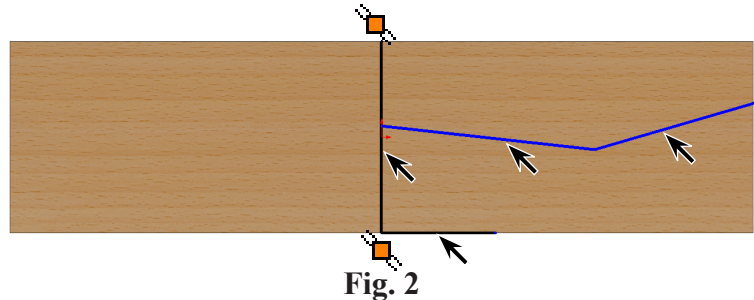

Fig. 2
- Step 1. Click **Line**  (L) on the Sketch toolbar.
- Step 2. Draw 4 lines, Fig. 2. Draw vertical centerline down Wing Blank through the Origin. Start from Midpoint  of an edge of Wing Blank. **Right click** and click End-chain from menu to restart line or use the L key to select Line tool and to end-chain.